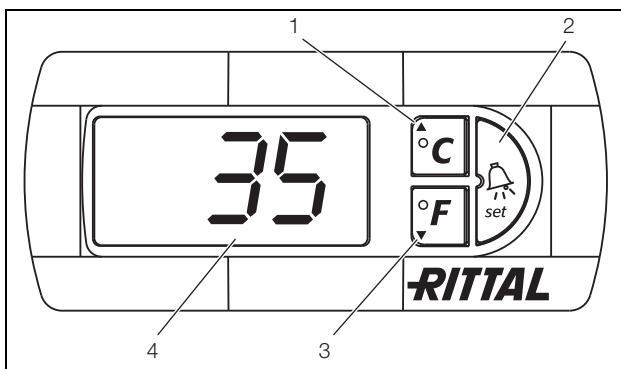

Fig. 19: e-Comfort controller
The e-Comfort controller has a 7-segment display (fig. 19, item 4). After switching on the power supply, the current software version initially appears on this display for approx. 2 seconds together with the symbol to show Eco mode is enabled, followed by a preset option (e.g. t10) or the temperature.
The unit is programmed using buttons 1 – 3 (fig. 19). The relevant parameters also appear in the display.
- Simultaneously press buttons 1 and 2 (fig. 19) for at least five seconds.
Using buttons 1, 2 and 3 (fig. 19) you can change 24 parameters within the preset ranges (min. value – max. value).